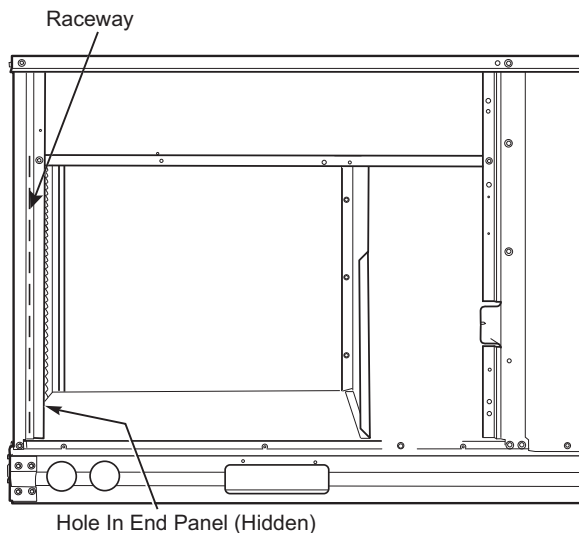

Fig. 31 — Field Control Wiring Raceway
Pass the thermostat control wires through the hole provided in the corner post; then feed the wires through the raceway built into the corner post to the control box. Pull the wires over to the terminal strip on the upper-left corner of the Unit Control Board. See Fig. 31. Using the raceway maintains separation between low voltage and high voltage wires in accordance with UL and NEC requirements.
2. Feed wires through the raceway built into the corner post (see Fig. 31) to the 24-v barrier located on the left side of the control box. The raceway provides the UL-required clearance between high-voltage and low-voltage wiring.